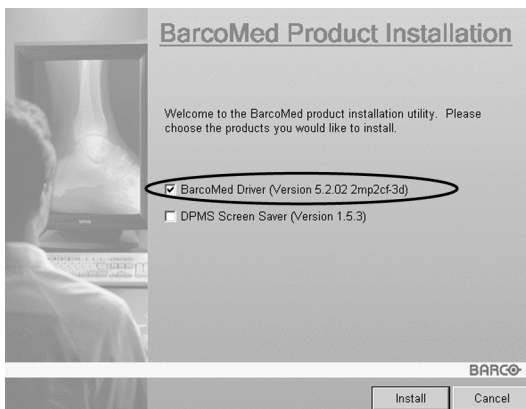

Figure 38
3. To update the driver, clear the checkbox next to (figure 38) and click **“Install”**.